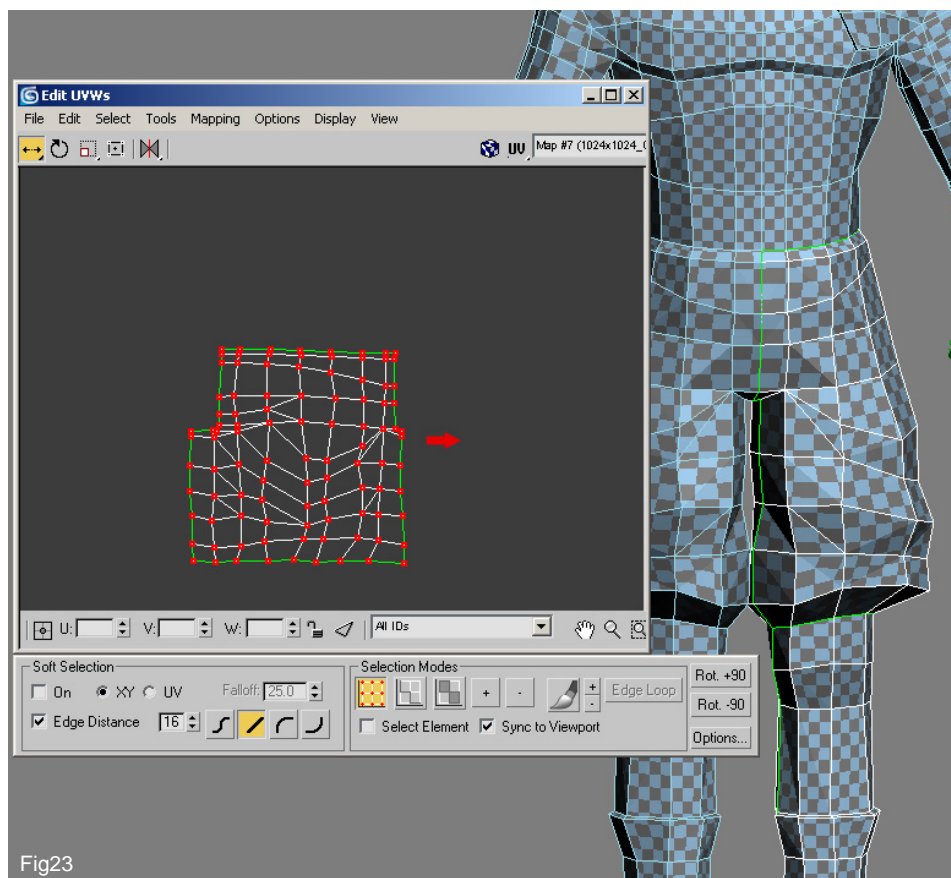

Fig23
23. When the leg is fully unwrapped it is time to copy it over and weld it to the main body. In Fig 23 you can see the duplicate leg on the right which is still a separate object. Before welding it up move the UVW's – of which the trouser section is shown in the window on the left. With the entire leg section shifted over now weld the mesh together.